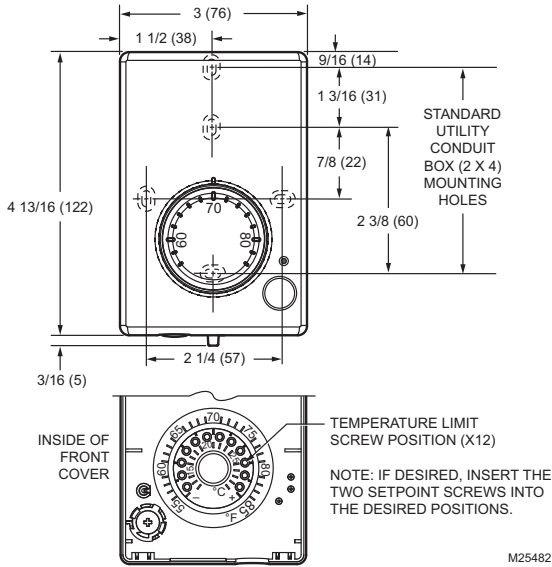

Fig. 4. Wall Module Subbase Dimensions in Inches (mm) and Temperature Limit Set Screw Locations (TR23 Shown).
1. *Optional:* For models with a temperature dial, insert the two setpoint screws into the inside of the cover to set the desired temperature range limit. See Fig. 4.